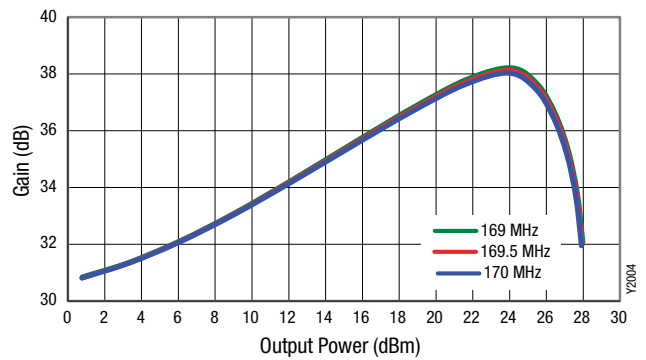

Figure 4. Gain vs. Pout
- Note 4:** Requires EK2 output match network designed for +27 dBm. See Figure 4. Contact Skyworks Application Support for more information.
Note 4: Requires EK2 output match network designed for +27 dBm. See Figure 4. Contact Skyworks Application Support for more information.